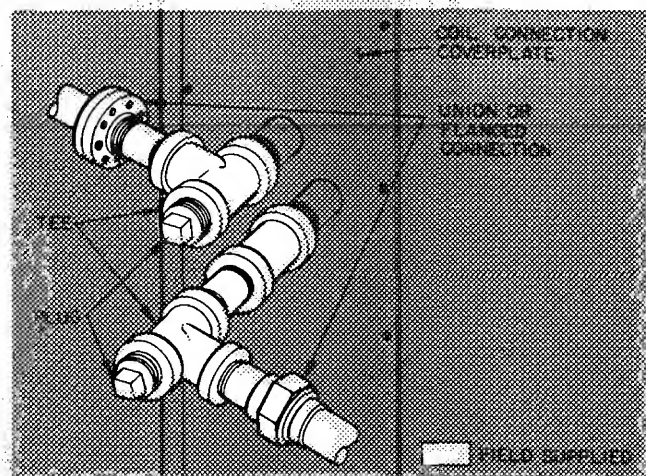

Fig. 18 – Coil Connections
1. Use unions or flanged coil connections for ease of service per Fig. 18.
2. Install a tee with a pipe plug at coil connection to facilitate air blow thru coil for freeze protection per Fig. 18.